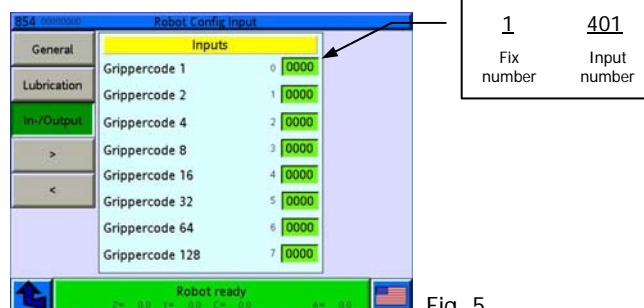

Fig. 5
- 2) In the configuration page, combine **Machine data > General > Robot Config. > In/Output >>>** the inputs that generate the program number code (see Fig. 5). Note: Select the page associated with the code coming from the gripping device or the line machine.